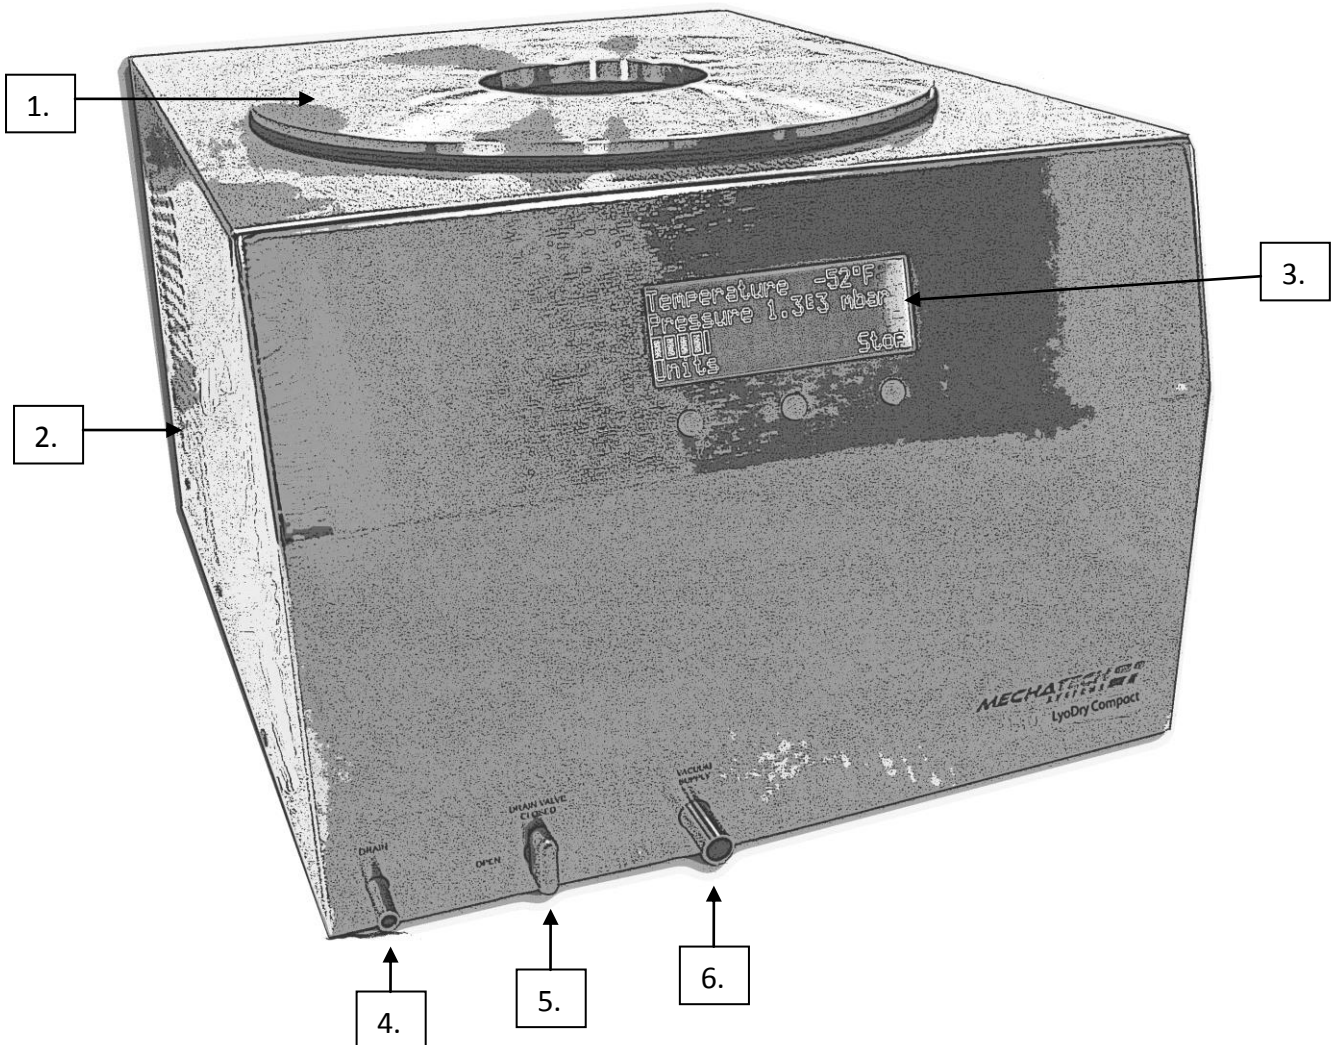

Figure 1 – LyoDry Compact.
2. The display (item 3, Figure 1) on the front panel should be illuminated.
7. Attach an empty drying accessory to the accessory flange (item1, Figure 1).
The LyoDry Compact has a condenser chamber, a refrigeration system and a control system which includes temperature and pressure indication and user controls. The refrigerant used in the LyoDry Compact is CFC free. All of the LyoDry Compact components are all housed in a stainless steel cabinet which is designed for bench-top use. The components are described in the following sections (see figure 1 for the locations of components).